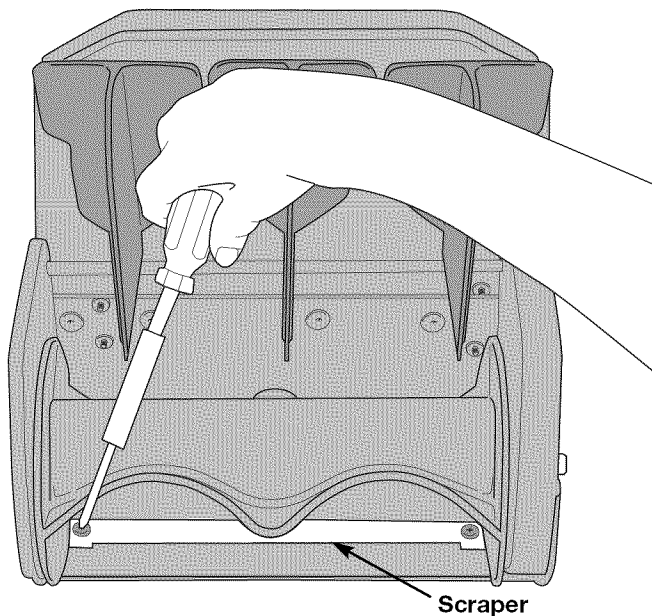

Fig. 12
2. Beneath the rotor, locate the three (3) screws securing the scraper to the housing. Remove them using a #T20 Torx bit or flat blade screwdriver (Fig. 12).
4. The new scraper will snap into place. Once in place, attach it to the unit by reinstalling the three (3) screws.